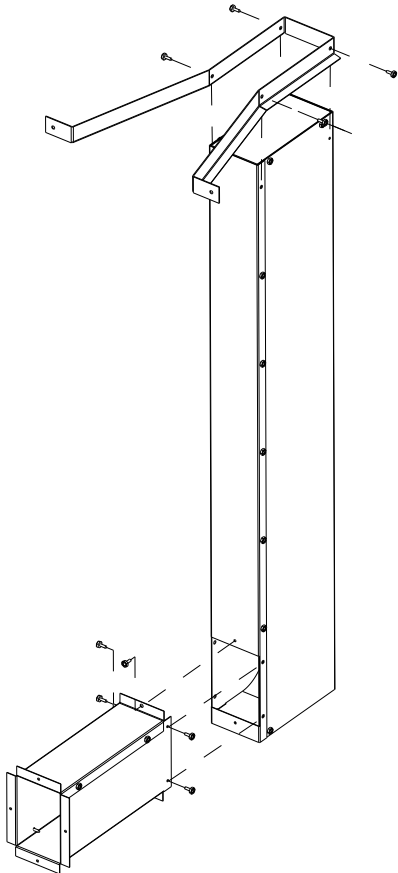

Figure 1
Flue Extension comes in three parts as shown in Figure 1:
1. Assemble the Flue Extension parts together as shown in Figure 1 using the provided screws to attach them.